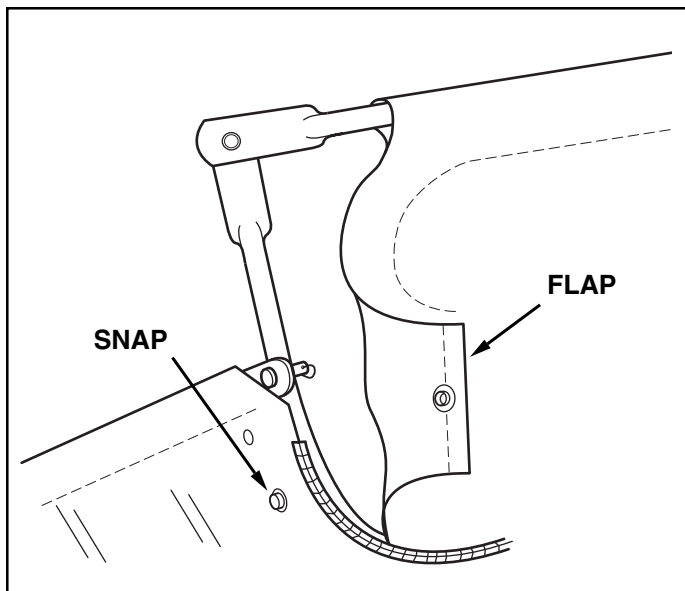

FIGURE 13
- Secure the bag corners around the lower hopper tubes by snapping the bag flaps to the bag bottom on both sides. See figure 13.